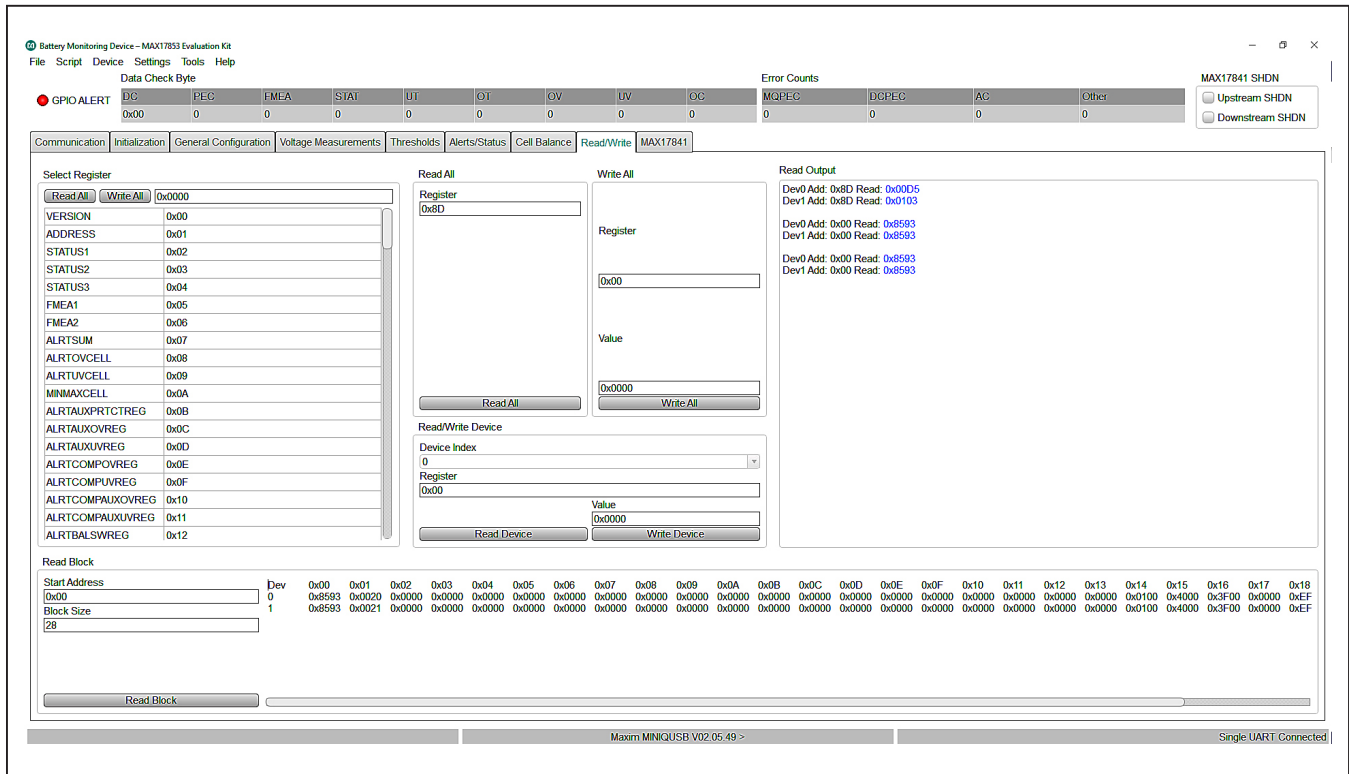

Figure 22. Read/Write Tab
The **Read/Write** tab (Figure 22) provides direct access to the read and write registers of the MAX17852. In the **Read/Write** tab, the GUI offers several read/write options to the user. The **Select Register** group box allows the user to read register contents by highlighting the desired register and clicking the **Read All** button. For example, if the user wants to read the unique ID assigned to each device, scroll down the list and highlight the ID1 (0x8C) register and click the **Read All** button, then highlight the ID2 (0x8D) register and click the **Read All** button. The contents of the registers are then displayed in the **Read Output** group box.
- 6) The EV kit contains a 10kΩ pullup resistor on each of the GP/AUXn pins. To pull up each of the GP/AUXn pins, select the **Read/Write** tab (Figure 22). Using the **Read All** group box, read register 0x62. Set THRM-MODE bit 9 and bit 10 (e.g., if register 0x62 is 0x0000, use the **Write All** box and send 0x0600). Setting the THRM-MODE bit activates the THRM pin on the device (pin no. 29). The EV kit terminates THRM to the 10kΩ pullup resistors.